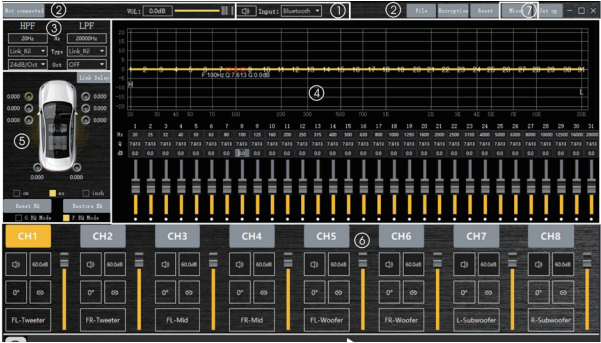
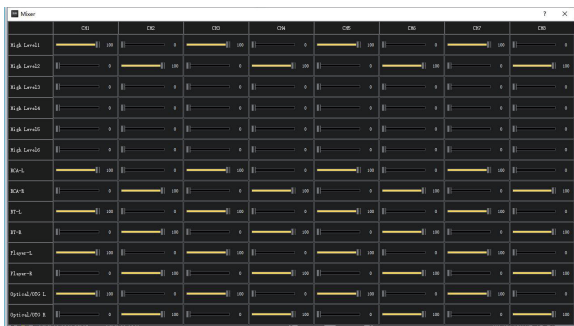

Figure 3.2.2
Figure 3.3.14
- ① as shown in figure 3.2.2, "1", input signal selection: high level, low level, Bluetooth, Optical, Player, OTG In.
- ② as shown in figure 3.2.2 "2", shows the main menu and connection status.
- ③ as shown in figure 3.2.2 "3", the high-pass and low-pass Settings of the divider.
- ④ as shown in figure 3.2.2, "4", area is output channel EQ setting.
- ⑤ as shown in figure 3.2.2, "5", shows the setting of delay space.
- ⑥ as shown in figure 3.2.2, "6", output channel configuration and common parameter adjustment area.
- ⑦ as shown in figure 3.2.2, "7", shows the setting of Mixer space.
In the online mode, in Figure 3.2.2 "1", click the appropriate input source, you can switch the audio input signal.
"6" area, click on the corresponding channel number in Figure 3.2.2 (CH1, CH2CH8), you can switch to the corresponding channel to adjust relevant parameters when changing the channel editing, where there are only 3.2.2 "3" zone (crossover and equalization parameters) will vary depending on the channel and change the parameter values.
Mixer settings: click "mixer" in the "7" area in Figure 3.2.2, then you can switch to (Figure3.3.14) the relevant parameter settings for the corresponding adjustment.